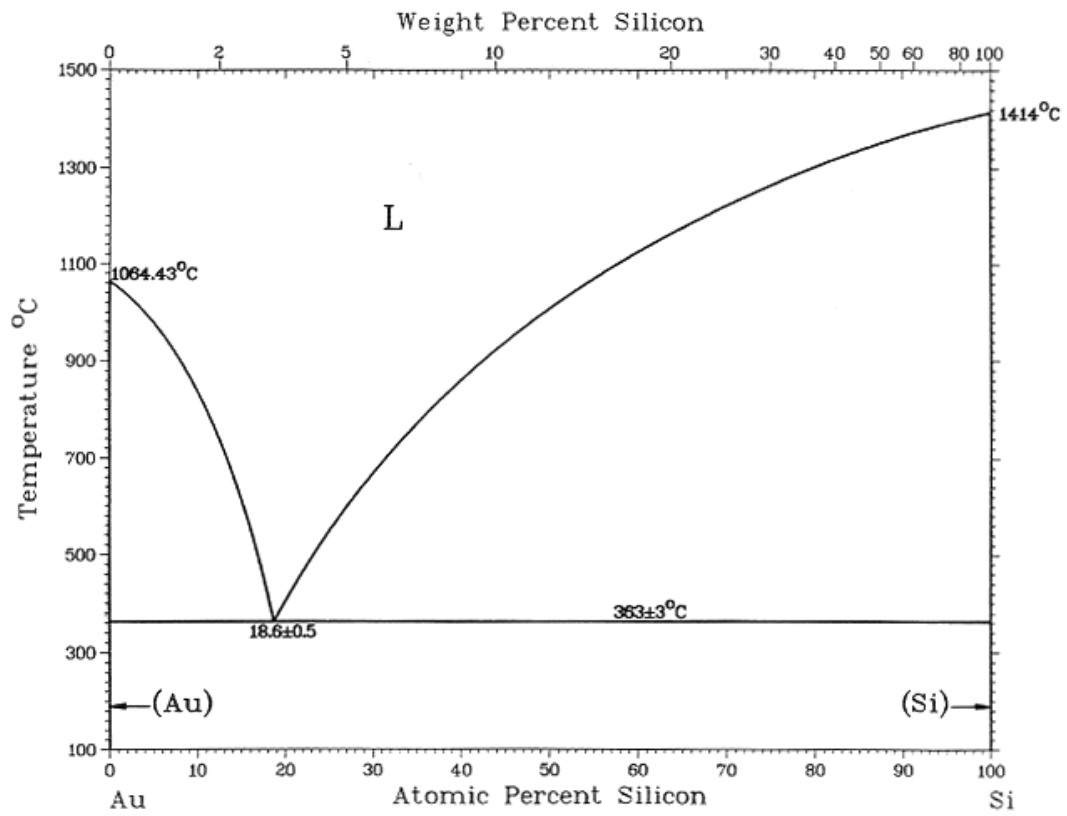

Figure 2 : Au-Si phase diagram (required for Section C, question 7)
- (b) The Au-Si phase diagram is shown in Figure 2 (**see end of paper**). Explain why there is not a significant region of the diagram in which a single solid phase containing both Au and Si is formed. List the phases present in the following mixtures: [15%]